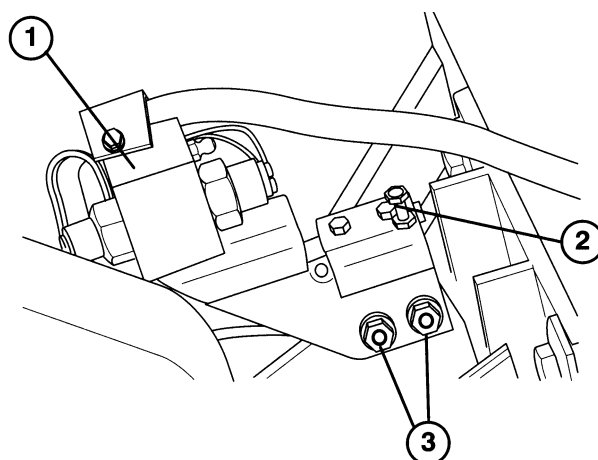

Figure 15
5. Check the coring head switch (Fig. 15) with a continuity tester or ohm meter and replace if damaged. The switch plunger must be depressed when the coring head is in the raised position.